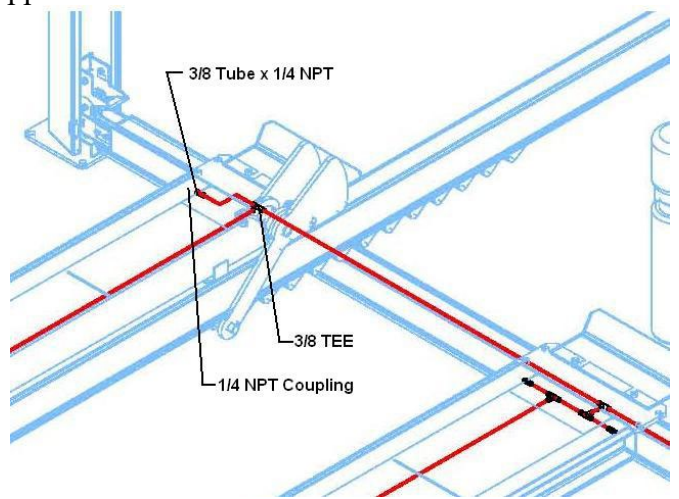

Figure 6
12. Route the 3/8" tube from the 3/8" tee in the passenger side front crossbeam to the 3/8" tee in the front drivers' side runway as shown in **Fig 6**. Connect the 3/8" tube x 1/4" MNPT fitting to the 1/4" NPT coupling welded in the runway.